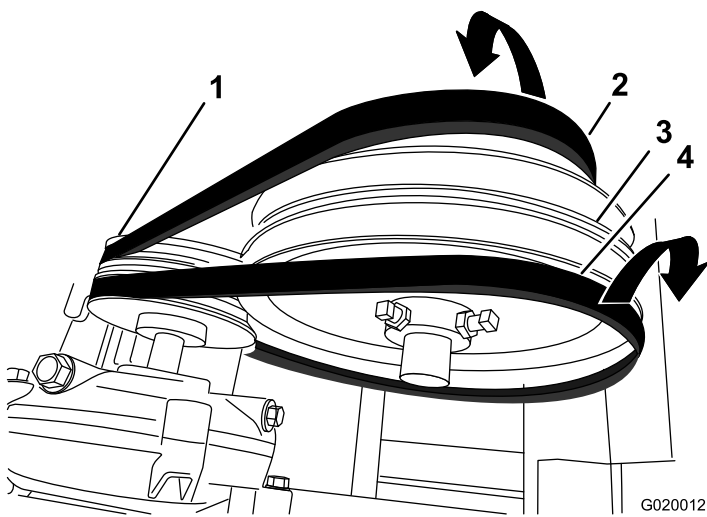

Figure 58
4. Slip the forward belt forward and off the idler pulley (Figure 58).
5. Slip the rear belt rearward and off the idler pulley (Figure 58).